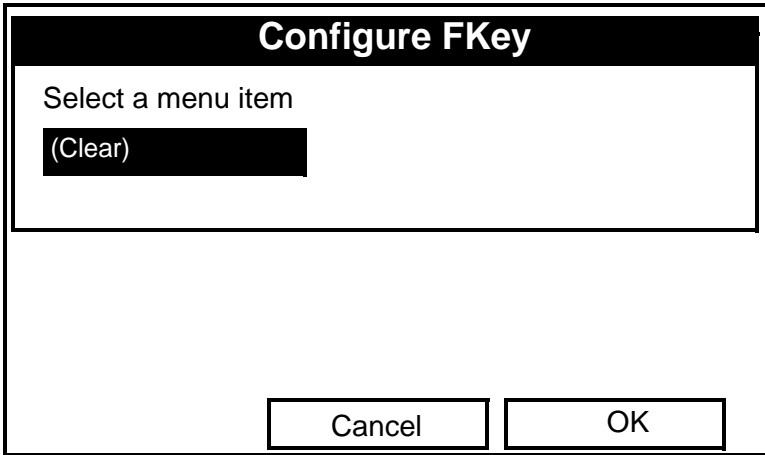

Figure 5-9: The Configure FKey Window
2. Use the [▼] or [▲] arrow keys to move to the desired FKey (1, 2 or 3) entry on the menu. Press [ENTER]. The Configure FKey window opens, as shown in Figure 5-9 on the next page.